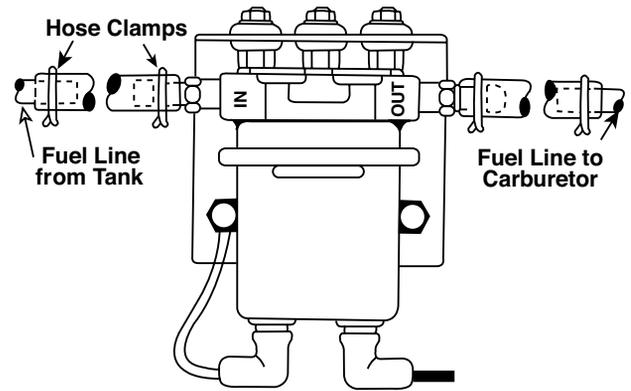

Fig. 2
- Anchor mounting bracket to frame with two self-tapping screws. Install the free end of the ground wire to the correct polarity terminal on pump. Press rubber boot firmly onto threaded post, making sure rubber boot seals around plastic washer. PUMP GROUND POLARITY MUST BE SAME AS BATTERY GROUND POLARITY. Install the other end of ground lead under a bracket mounting screw hose before tightening. Tighten bracket to frame and install lock nuts on the exposed threads of each screw. (See Fig. 2) Install hose fittings in pump.
- Use short section of hose and connect pump to gas line as indicated in Fig. 2. Use blue colored clamps to connect hose to inlet and outlet pump fitting. When connecting hose to 5/16" gas lines, use smaller clamps. When connecting to 3/8" line, use larger clamps.